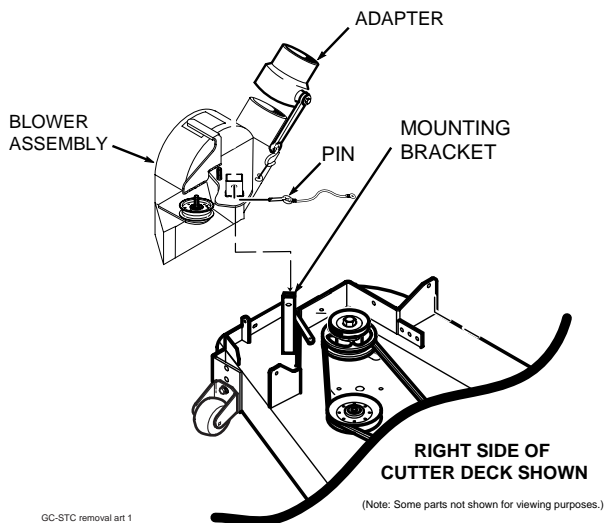

Figure 6-1
3. Remove the rubber strap holding the adapter to the blower assembly. See Figure 6-1.
4. Remove the pin holding the blower assembly to the mounting bracket on the cutter deck and remove the blower assembly. See Figure 6-1.